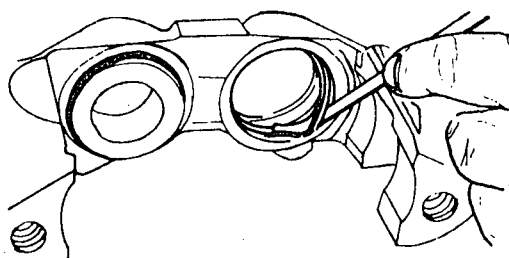

Fig. 5
h) Remove the seals from the cylinders with a fibre or a soft metal point (fig. 5).